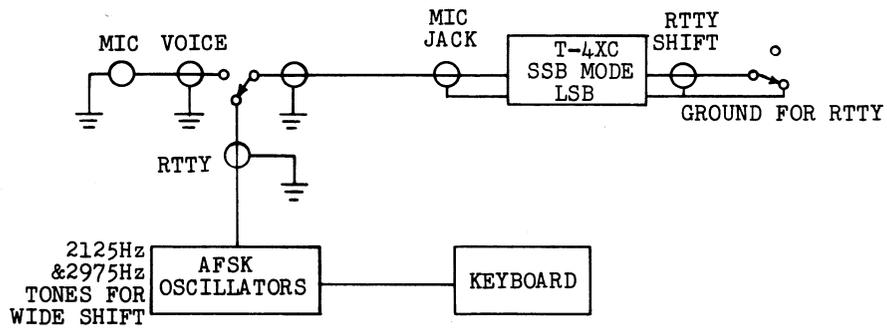

Figure 3-4. AFSK Circuit
b. Refer to figure 3-4. The second method of generating a RTTY signal employs the use of audio oscillators to generate AFSK. When the audio tones are fed through an SSB transmitter, a simulated FSK signal results. The T-4XC may be used in this mode if regulations permit; however, the carrier oscillator frequency must be shifted approximately 500 Hz farther away from the center of the filter passband. This shift alters the frequency response of the transmitter so that the commonly used 2975 Hz tone frequency falls within the passband of the SSB crystal filter, and also increases unwanted sideband rejection and carrier rejection.